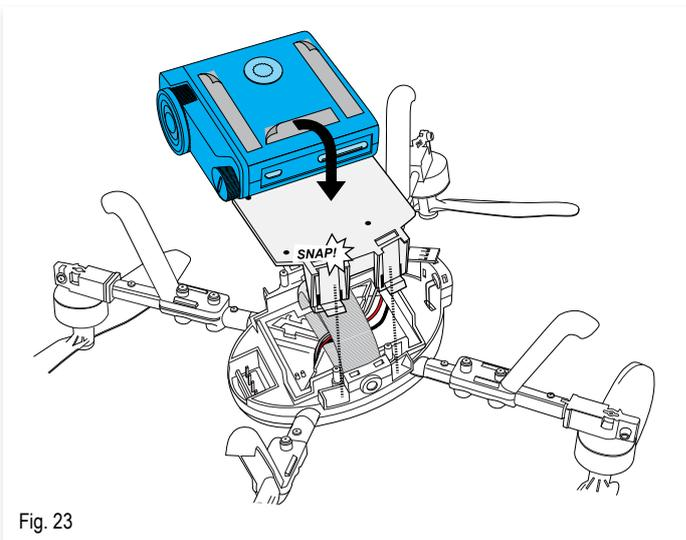

Fig. 23
- > See [Fig. 23] for the mounting procedure.